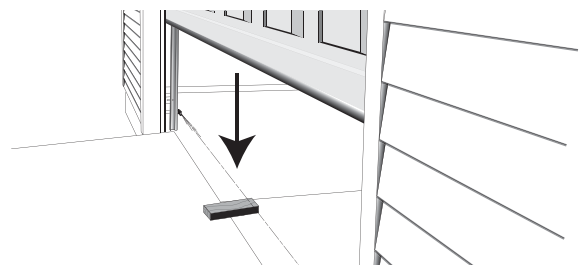

FIG. 6-2 2 x 4 under center of door opening
- Place a 2" x 4" board (laid flat) under **center of garage door opening (Fig. 6-2).**